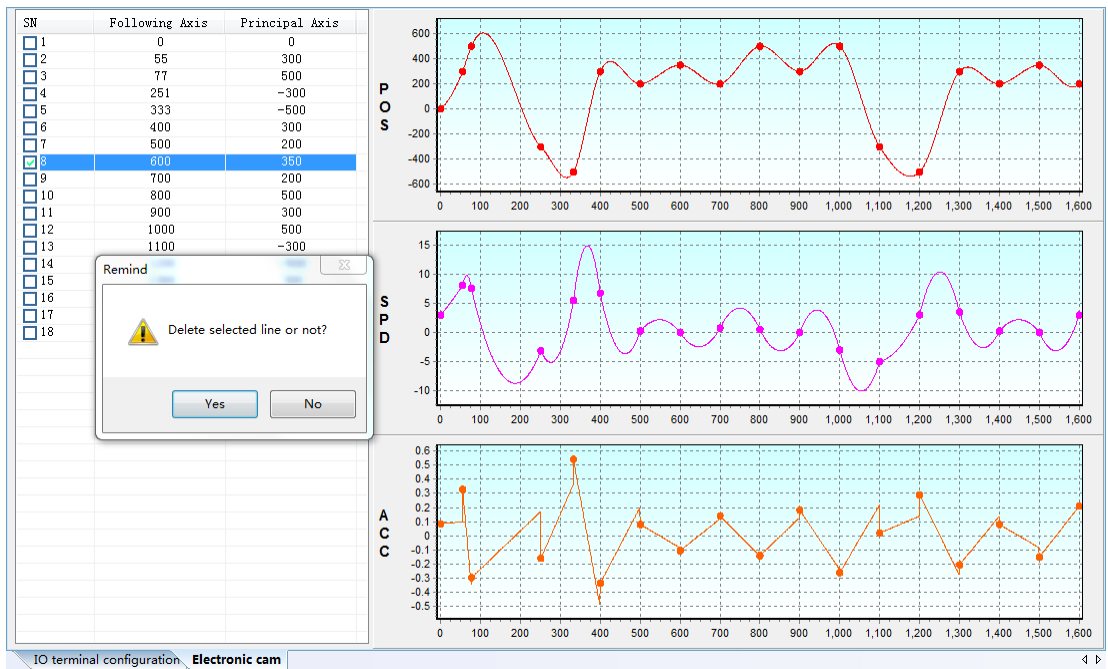

Fig 3-2-17 Delete multi-row
(2) **Delete selected row:** click serial number box to select row, right click to select [Delete number-selected row], click [YES]. (Fig 3-2-17)